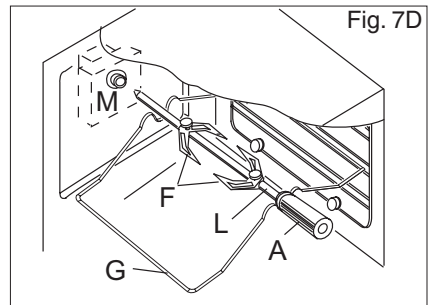

Fig. 7D
- Place the chicken or meat cut to be roasted on the spit L, so that it is firmly held in place by the two prongs F (fig. 7D).